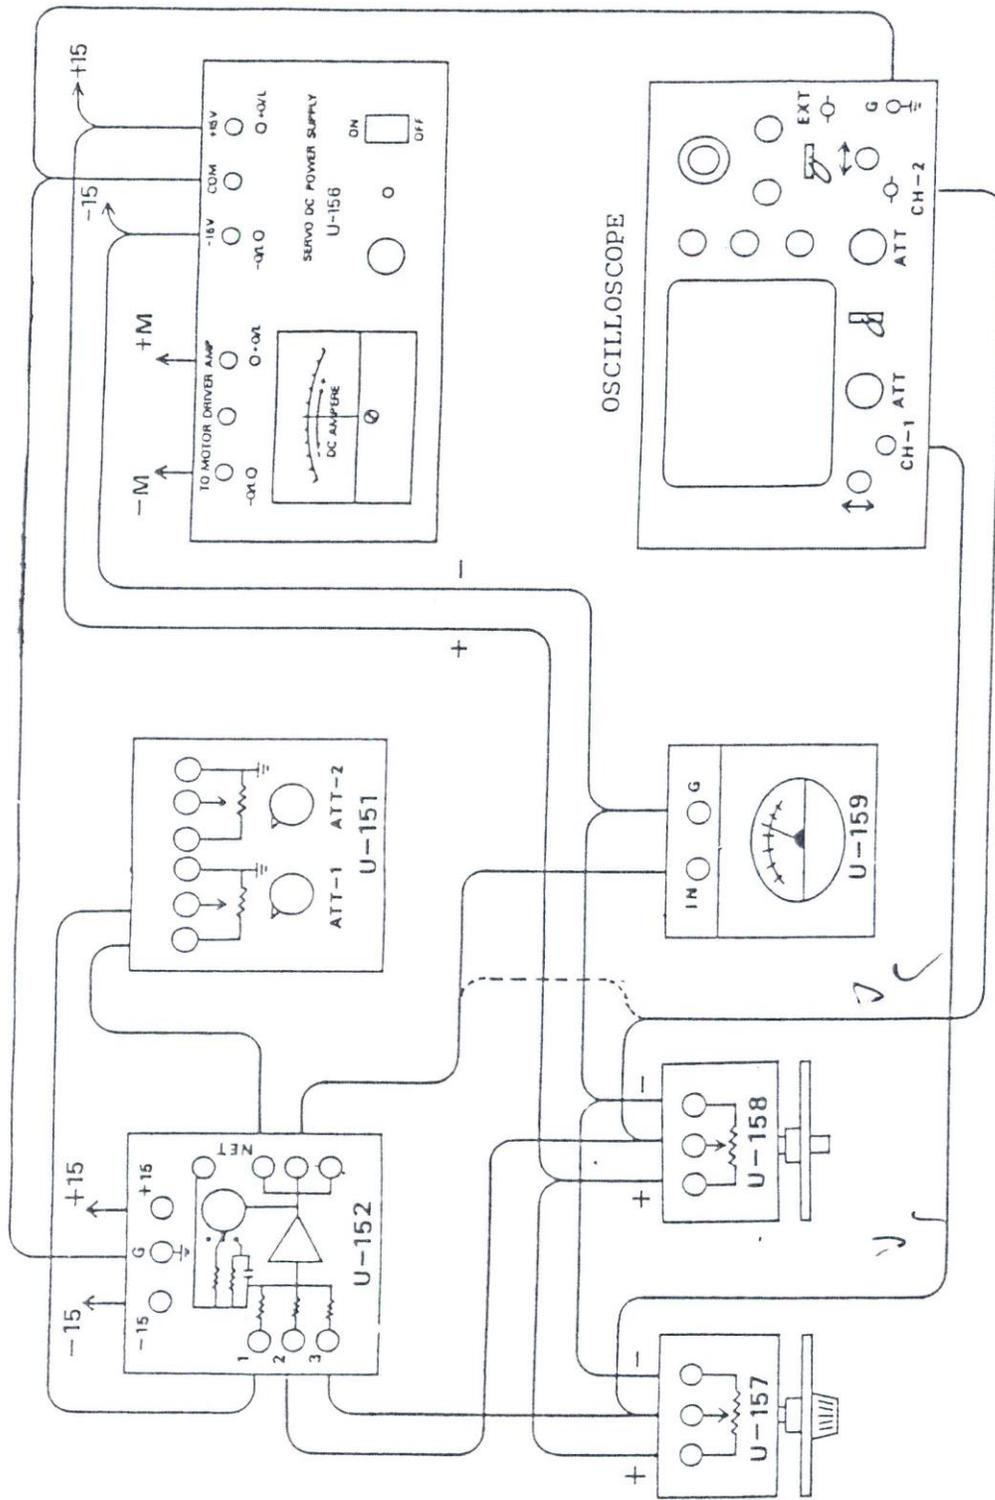

Fig. 4-2 Wiring Diagram of Experiment 4
- 3) The 4-1(b) circuit can be obtained by connecting U-151 to U-152 as shown in Fig. 4-2.
1. Referring to Fig. 4-2, wire all the modules as needed.